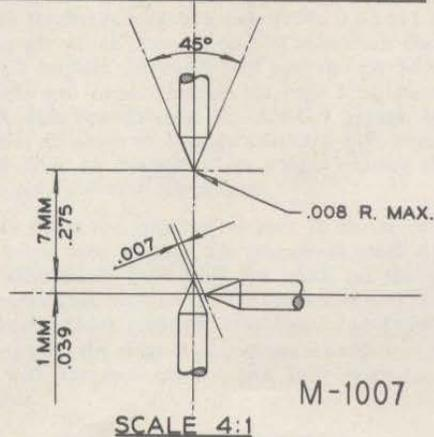

Figure 15—Correct Setting of Standard 7 mm. Three Point Spark Gap
b. If coming-in speed is above the value given, check the adjustment of the spark gap on the test stand. The correct spark gap for the coming-in speed test is a 7 mm. (.275 inch) three point gap, the electrodes of which are sharpened to a 45 degree included angle with not greater than .008 inch radius at the apex of the cone thus formed. (*See figure 15.*) The teaser electrode